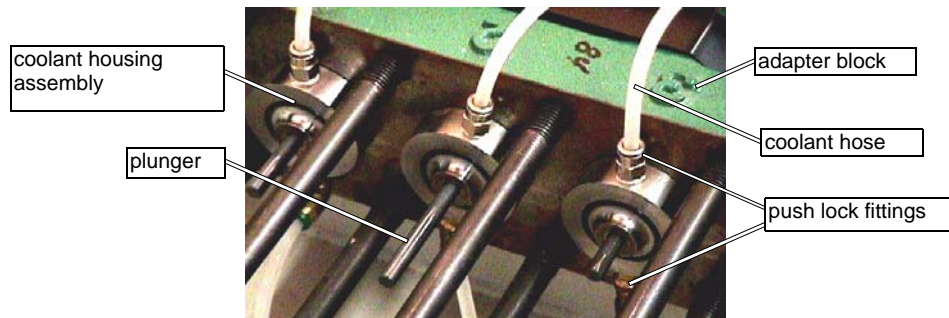

Figure 5-37: Removing the Coolant Housing Assemblies
1. Remove the Coolant Housing Assemblies (Figure 5-37) by sliding them forward until they clear the end of the Plungers. The Coolant Housing fits snugly to the bore in the Adapter Block (Figure 5-37) and may be difficult to remove. Use the two Fittings, top and bottom, of the Coolant Housing to rotate the assembly while removing it. During removal, keep it aligned with the bore.
1. Remove the Coolant Housings (Figure 5-37), if not already removed.